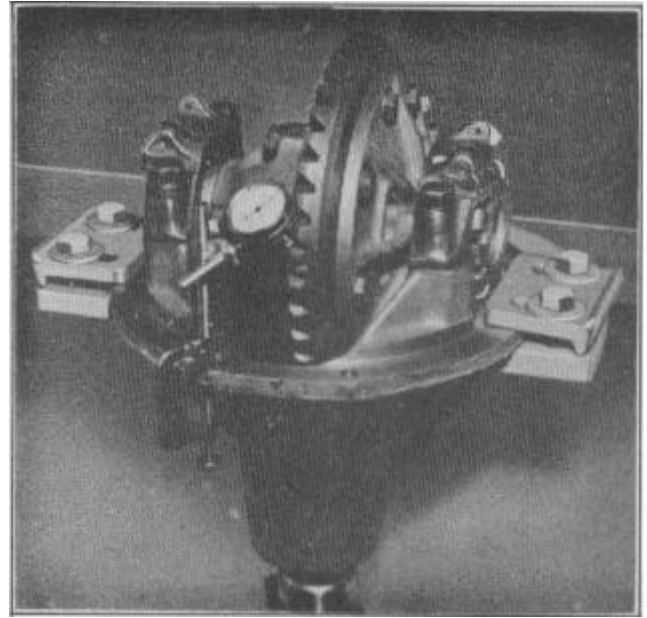

FIGURE 31
12. Rest plunger of dial indicator on the outer edge of the ring gear tooth. See Figure 31. When moving the ring gear by hand, the back lash should be between .004" to .006". If the reading does not conform to recommended tolerances turn adjusting nuts one half notch at a time until desired reading is obtained.